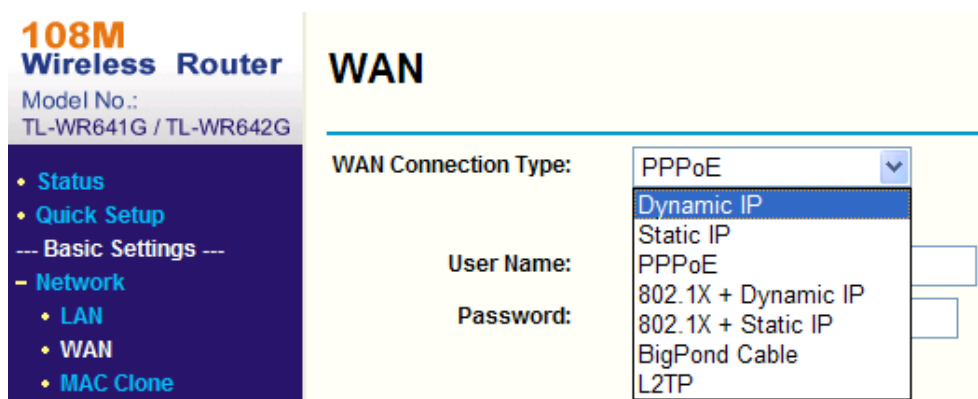

Figure 4.5.1 Select WAN Connection Type
**Step1:** Firstly, select the router's WAN connection type. As shown in Figure 4.5.1: